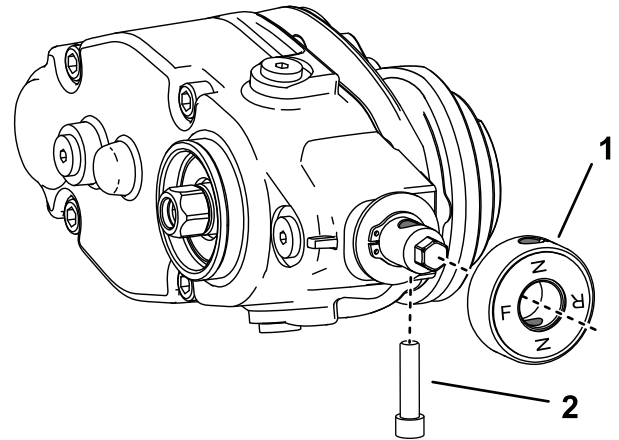

Figure 8
7. If you are installing the groomer at the left side of the machine, perform the following steps (Figure 8):